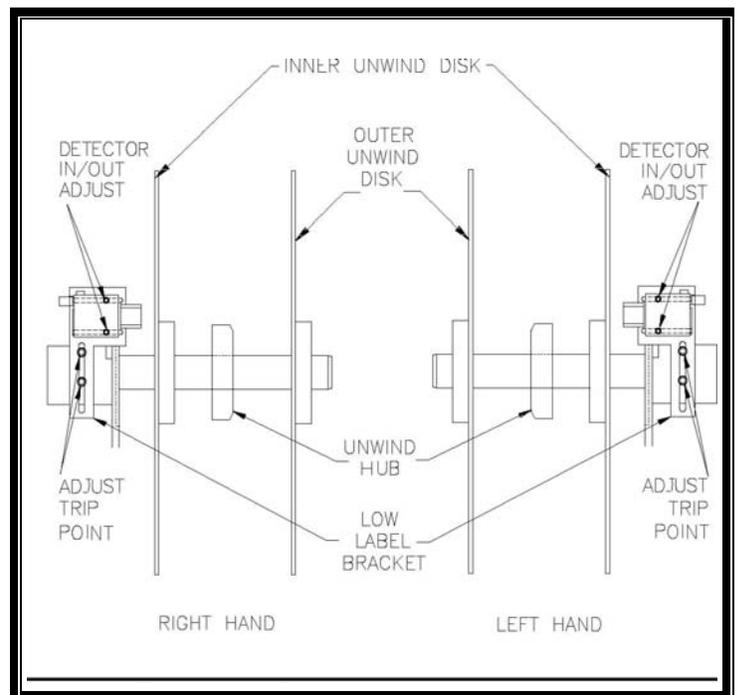

Figure 20- LOW LABEL ALARM ADJUSTMENT
1. If necessary, loosen the mounting screws to position the pressure bar as shown in Figure 20. Do not fully tighten the screws at this time.
2. Loosen the pressure bar in/out adjustment screws and slide the pressure bar away from the wrap unit. (Refer to Figure 20).
2. Position the applicator so that the peeler plate tip is 1/4 to 3/8 inch from the tangent of the wrap belt. (See Figure 20).